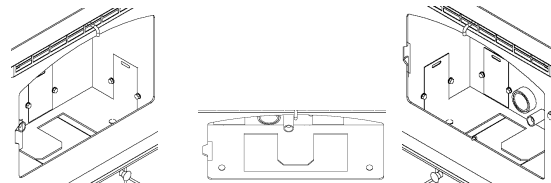

FIGURE 26
- Scrape ash bin into the pedestal ash bin through the opening in the bottom of the firebox or vacuum to remove ashes (see Figure 26).
- b. **Interior Chambers** – Four ash doors in the firebox in the P23 can be removed for periodic cleaning (refer to figure 26). These doors allow access to the chamber surrounding the firebox.